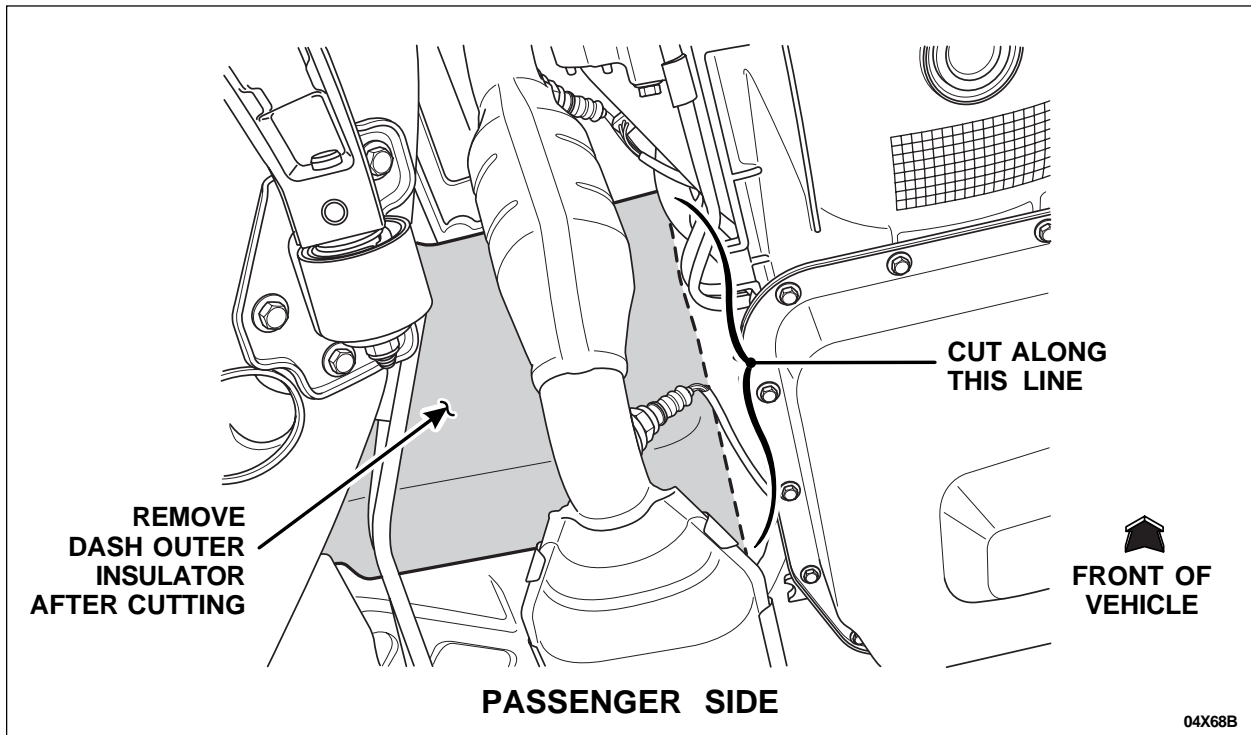

FIGURE 2
- Discard the cut pieces of insulator. See Figure 2.